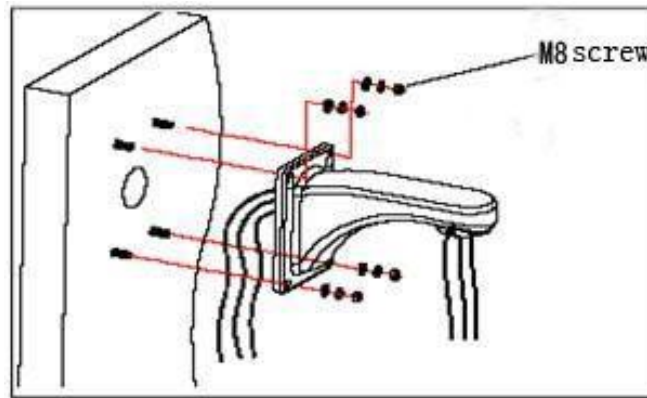

Fig 3
b. As shown in fig 3, fix the wall hanging bracket on the wall with wire and cable through it.